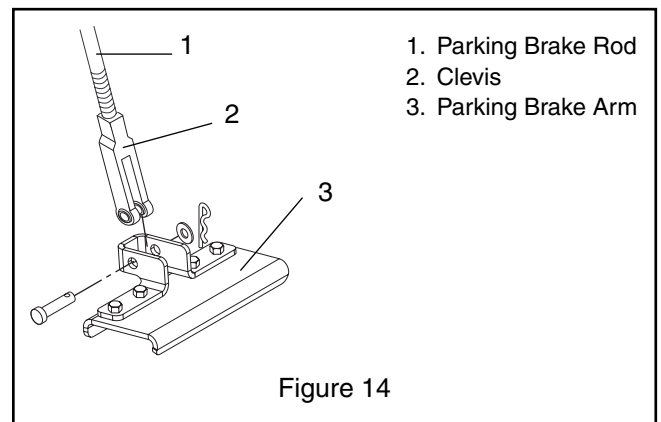

Figure 14
1. Remove clevis from brake arm tab (Figure 14).